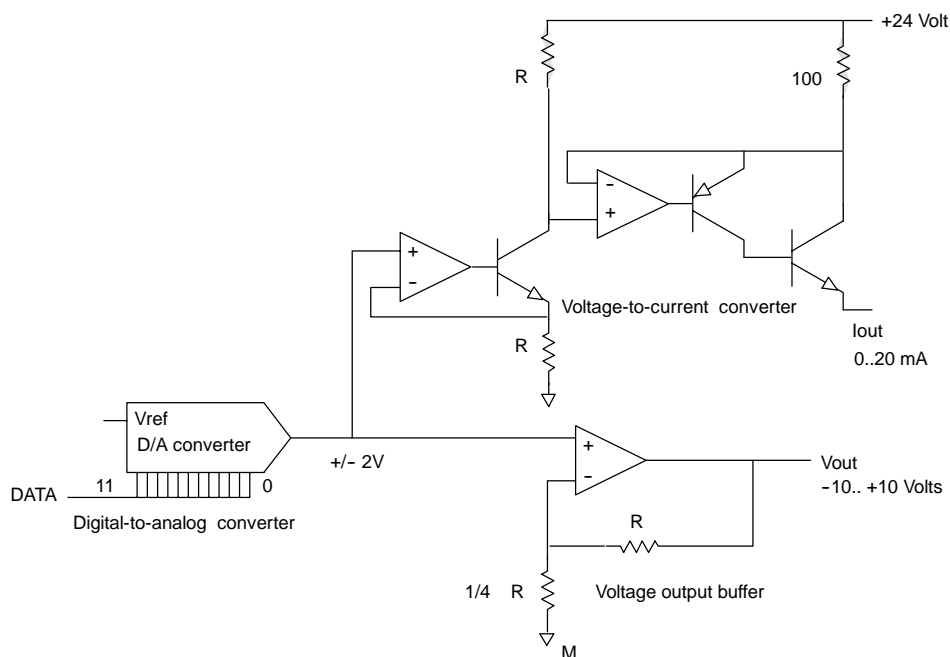

Figure A-18 Output Block Diagram for the EM 232 and EM 235
- ☐ Short the inputs for any unused channels, as shown in Figure A-18.